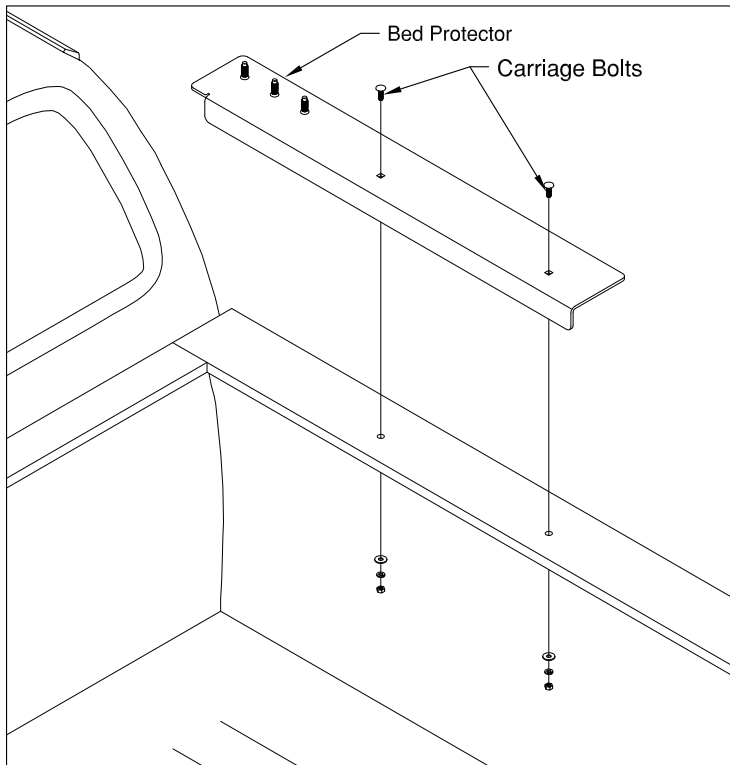

FIGURE A1: PASSENGER BED CORNER
- 1. Verify proper fit of Cab Protector.** Place the bed protectors on the pickup sides as shown in figure A1. Make sure the Bed Protector flange is pushed tightly against the front of the bed and the inside of the bed sides. Measure across the truck from the center of the middle threaded stud on the driver side to the center of the middle stud on the passenger side. Next measure the distance between the centers of the slots at the bottom of the cab protector. The two measurements should be within 1/2" of each other.